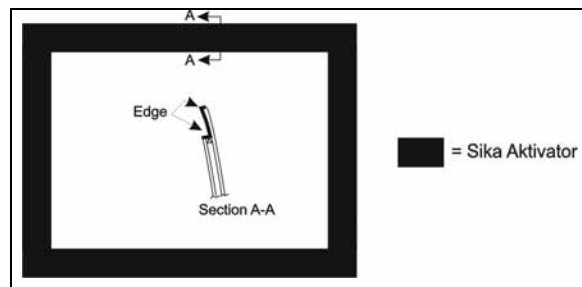
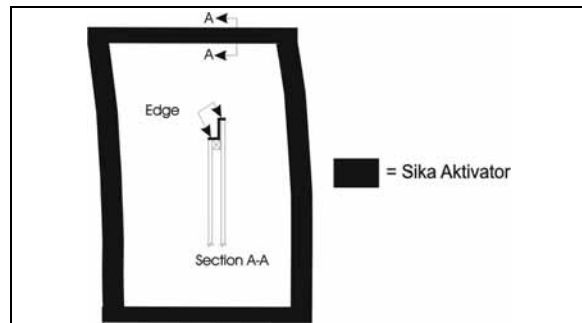

FIGURE 56 : HALF-WINDOW – SIKA AKTIVATOR
FIGURE 57 : SIDE WINDOW – SIKA AKTIVATOR
5. Apply Sika Aktivator on the window pane as per FIGURE 56 (half-window) or FIGURE 57 (side window);